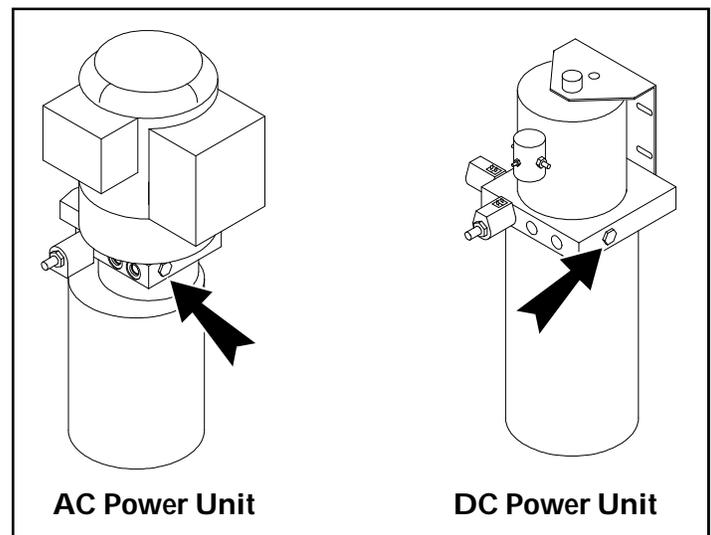

Figure 4-4: System Relief Valve
4.4 Setting System Relief Valve (Figure 4-4)
3. Remove the cap from the System Relief Valve (fig. 4-4), and turn the adjustment screw counter-clockwise two full turns.
5. Turn the System Relief Valve Clockwise (fig. 4-4) until the machine begins to rise.